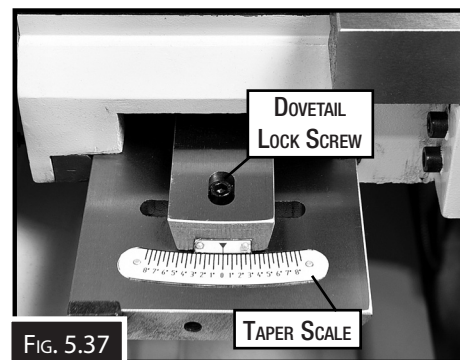
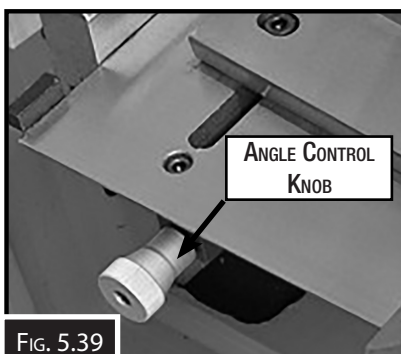

FIG. 5.37
FIG. 5.39
4. Using a 6mm hex wrench, loosen both dovetail lock cap screws (Fig. 5.37, 5.38)
5. Turn the taper angle control knob (Fig. 5.39) until you reach the taper angle that you need as indicated by the taper scale (Fig. 5.37).